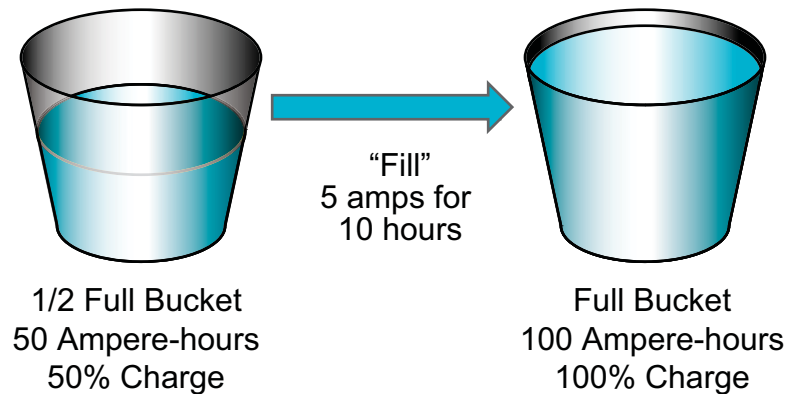

*Figure 5: Battery Discharging Visualization*
**This information is important because it determines the length of time necessary to charge a battery to an acceptable level for testing. The principles for “draining” the battery hold true for charging the battery. If you remove 50 ampere-hours from the battery as in Figure 5, it must be placed back to return the battery to 100% charge.**